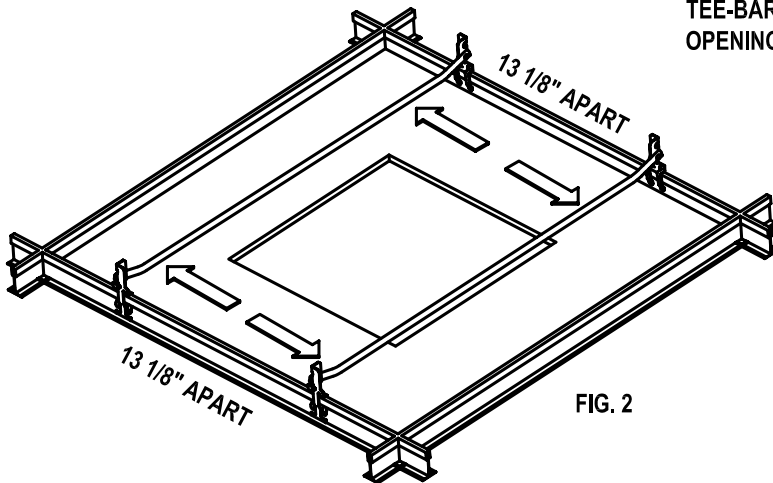

FIG. 2
2. LOCATE (2) B-LINE BA12 OR EQUIVALENT "ELECTRICAL BOX TEE-BAR FASTENERS" (BY OTHERS) ON EACH SIDE OF LUMINAIRE OPENING AS SHOWN. (FIG. 2)